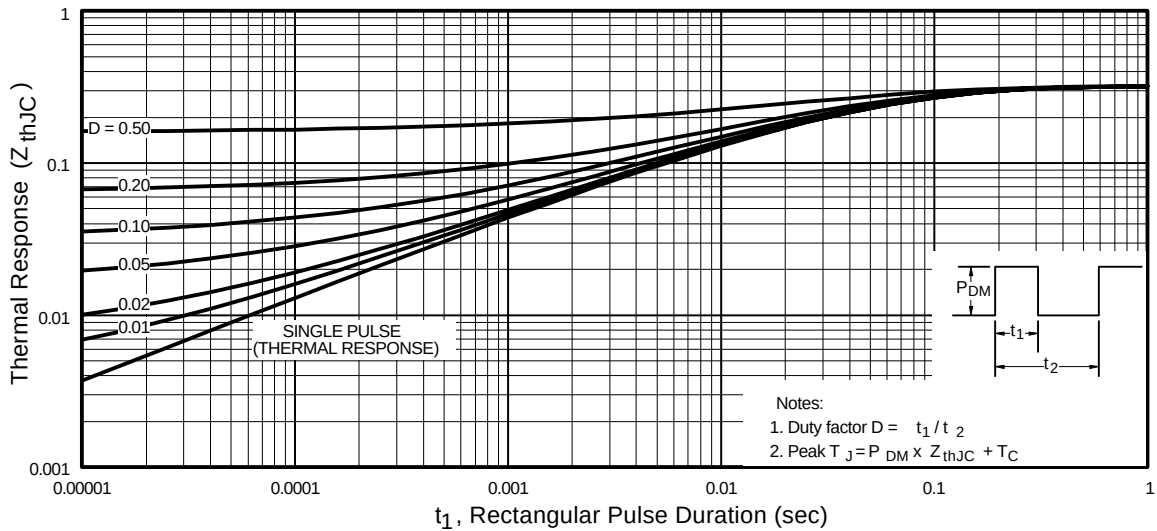

Fig 11. Maximum Effective Transient Thermal Impedance, Junction-to-Case
- ① Repetitive rating; pulse width limited by max. junction temperature. (See fig. 11).
- ② Starting $T_J = 25^\circ\text{C}$, $L = 0.25mH$
$Z_{thJC}(D, t_{av})$ = Transient thermal resistance, see figure 11)